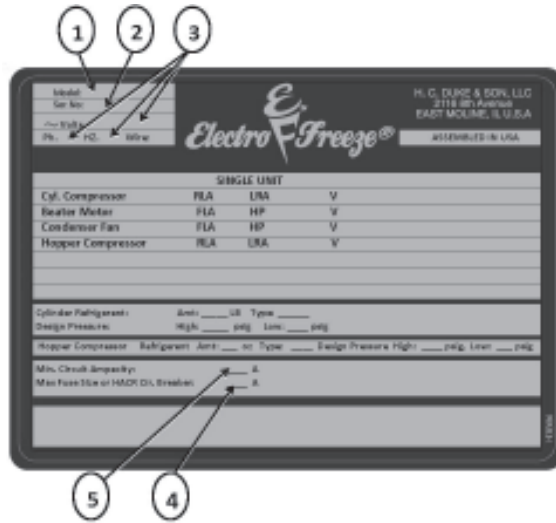

Figure 4-1
1. Always verify electrical specifications on the data plate (figure 4-1) of each individual freezer. Data plate specifications will always supersede the information in this manual.
Fill in the following information as soon as you receive the *Electro Freeze* CS600. (The item numbers — encircled, below — correspond with the callout numbers in figure 4-1.)